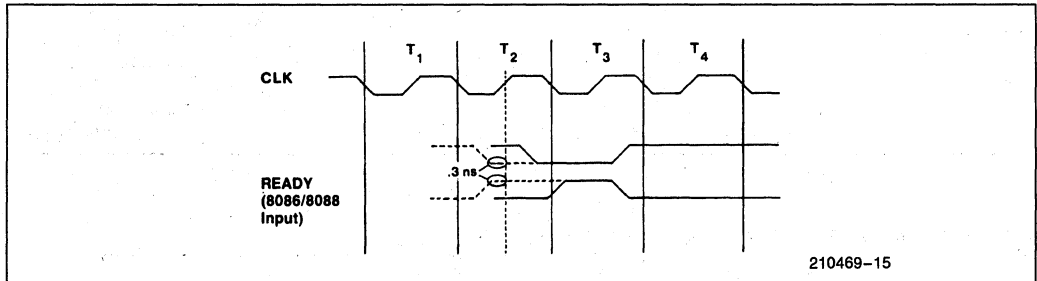

Figure 12
2. READY is sampled near the end of T2, T3, Tw to determine if Tw machines states are to be inserted. Timing shown is for BTHRDY = FALSE; see Figure 12 for BTHRDY = TRUE.
2. READY is sampled near the end of  $T_2$ ,  $T_3$ ,  $T_w$  to determine if  $T_w$  machines states are to be inserted. Timing shown is for  $BTHRDY = FALSE$ ; see Figure 12 for  $BTHRDY = TRUE$ .